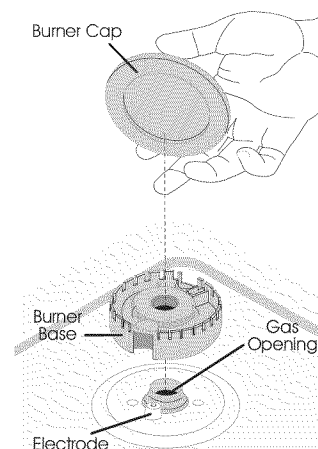

Figure 11
10.1 Install Burner Bases and Burner Caps This range is equipped with sealed burners as shown (see Figure 11).